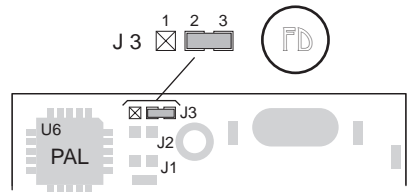

Figure 2-1. CM7100 Header J3 Configured for Special EPROM
2. Check header J3 on the micro-processor side of the CM7100. The surface-mounted jumper should connect pins 2–3 to reflect the 128K memory of the special EPROM. This factory default setting is shown in Figure 2-1.
2. Check header J3 on the microprocessor side of the CM7100. The surface-mounted jumper should connect pins 2–3 to use the Development Board. This factory default setting is shown in Figure 2-1.